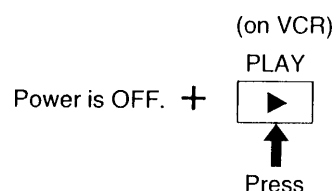

Fig. 20 - Simplified Fault Finding Data
Simplified Fault Finding Data (Figs. 20, 21, 22)
1. With the power turned off, press the *Play* button on the VCR for more than three (3) seconds (Fig. 20).